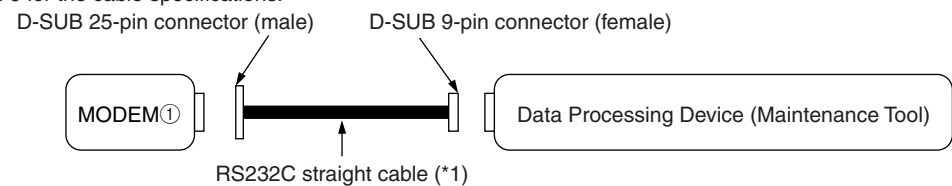

Figure 2. Modem-Data Processing Device connection diagram
① Use RS232C straight cable (\*1) to connect the Data Processing Device (Maintenance Tool) and the MN converter side modem as shown in Fig. 2.